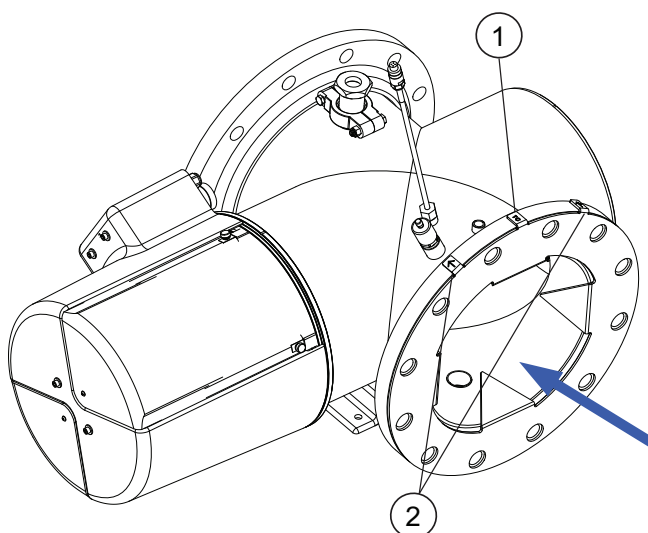

Figure 6 Visual Aid
- d. There are also two visual aids for quickly checking correct installation of the flow conditioner. Refer to Figure 6.